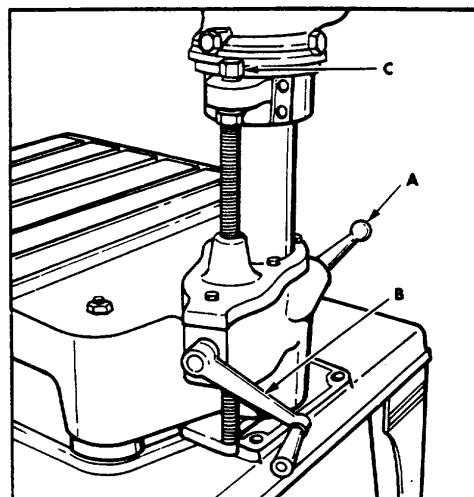

Figure 12
The ram and drill head is raised or lowered by loosening the lock handle (A) fig. 12, and turning the elevating crank (B). This mechanism is carefully tested at the factory, but if knocked or jarred during shipment it may be misaligned. This misalignment will cause the crank to operate stiffly and impose an unnecessary strain on the gears. The trouble can be eliminated simply by loosening the nut (C) fig. 12, on top of the elevating screw, and turning the crank until the screw aligns itself. Tighten the nut (C) securely after correct alignment has been attained.